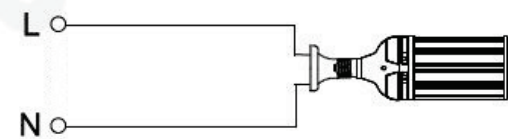

Fig. 3: Insert LED Lamp by Screwing it Clockwise into Socket
- Install Utility/High-Power LED Lamp by screwing it clockwise into the socket, as shown in Fig. 3.